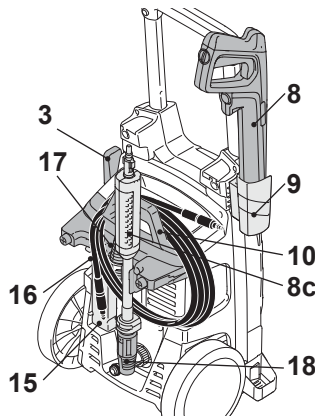

Fig. 12
Use the hose holder / handle (10) to store the pressure hose (16) (Fig. 12).
Use the supply cord holder (3) to store the supply cord (Fig. 12).
Use the upper spray gun holder (9) to store the spray gun (8) (Fig. 12).
Accessories (soap tank, nozzle, extension lance) can be stored at the back of the product. (Fig. 12).